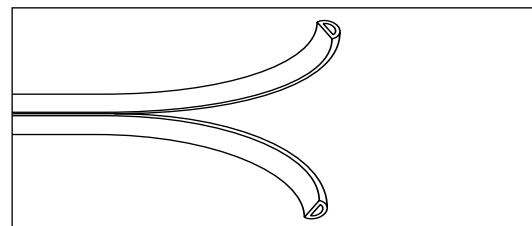

FIGURE 2. Carefully separate seal strip. **DO NOT CUT!**
- a. Carefully separate (**NOTE: PULL APART - DO NOT CUT**) seal strip. (Fig. 2)